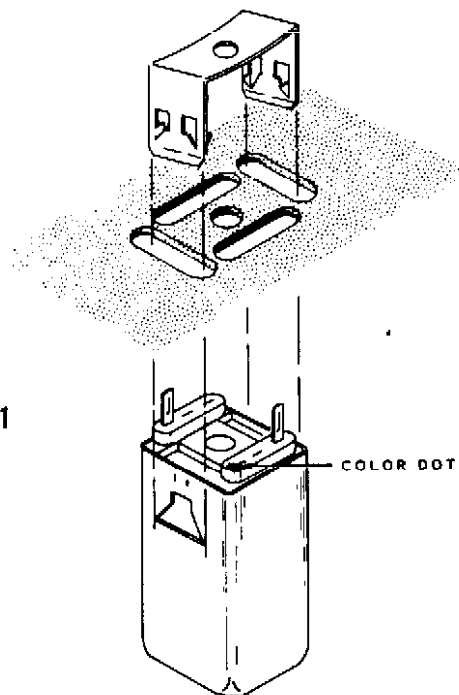

Figure 1
- () Install the high frequency coil (#40-748) at L2 as shown in Figure 1. Push the mounting clip all the way until the teeth lock into the sides of the can.
- () Install the coil selected for L2 as shown in Figure 1.
- () Connect a .02 μ f disc capacitor from lug 3 of terminal strip L (S-2) to lug 2 of coil L2 (NS).
- () Connect a 2" hookup wire from lug 2 of coil L2 (NS) to lug 1 of terminal strip B (S-3).